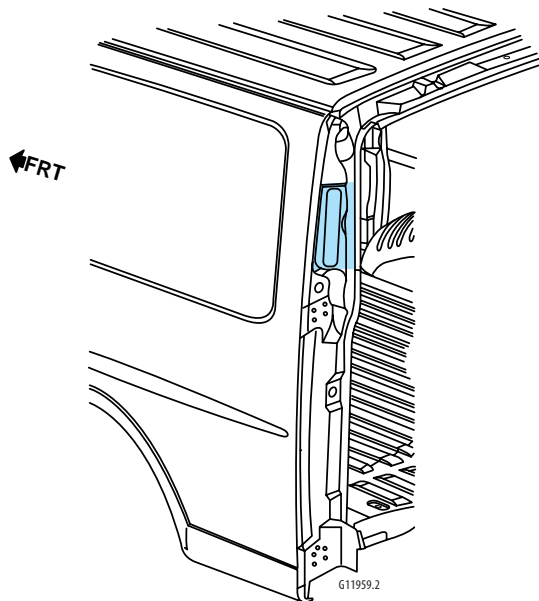
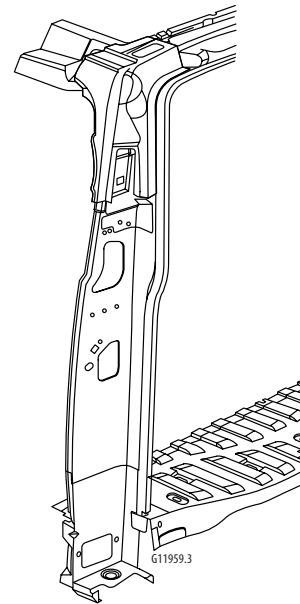

Figure 9-2:
Figure 9-3:
4. The rear door hinge pillar is to be sectioned in the area of the pressure relief valve opening (figure 9-2). Measure within the shaded area on the rear pillar. Mark and cut the original panel, use care not to damage inner panels (figure 9-3).